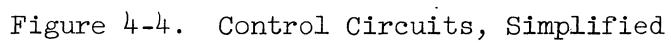

Figure 4-4. Control Circuits, Simplified
4.4.2. FILAMENT. (See figure 4-4.) Phase A is applied to the coil of filament relay K-103 directly. Phase B is applied to the coil through FILAMENT OFF buttons S-112 and S-113 when either FILAMENT ON button S-111 or S-310 is pressed. When filament relay K-103 closes, contacts K-103.3 and 4 bridge the FILAMENT ON buttons and hold the filament relay. The filaments of the driver stages immediately light and the blower hold relay K-305 is energized to apply power to blower contactor K-301. When the air stream is at nearly full pressure, air interlock switch S-304 closes to energize PA filament contactor K-303. Blower hold relay K-305 is a bellows type in which air entering a bellows thru a small orifice creates the time lag which keeps the blower operating for a short period after the PA filaments have been turned off to insure complete cooling of the tubes. Simultaneously with the application of driver filament power, time delay relay K-101 begins to heat by virtue of phase A being directly applied to pin 3 of K-101 and phase B being applied to pin 2 from K-103.3 thru R-173 and R-171. When K-101.5 and 7 close, filament-at-operating-temperature lamp I-101 lights and plate power can now be applied. R-172 is connected to form a voltage divider with R-173 to reduce the heat in K-101 after it has operated.
4.4.3. PLATE. (See figure 4-4.)
In the Automatic sequence start a complete start may be had by pressing the PA PLATE ON button. In succession the driver filaments and blowers will come on, the PA blower will come on, the PA filaments will come on and then the driver plate and PA plate will come on. (Refer to figure 4-4.) Pressing the PA PLATE ON button will energize PA plate hold relay K-206 by the circuit at phase B of S-112, S-311, S-312, S-313, K-306.3 and 4, K-304.3 and 4, to the relay coil. Phase A is connected directly. This relay is held by its contacts K-206.3 and 4, which are responsible for energizing of driver plate hold relay K-104 thru S-112, S-311, S-312, K-206.3 and 4, S-114, K-105.4 and 3, K-106, 4 and 3, S-108, S-109, S-201, S-301, S-302 to the coil of K-104. Contacts 3 and 4 of driver plate hold relay K-104 now energize driver filament contactor K-103 to light all filaments and start the heater element of time delay relay K-101. Contacts K-104.3 and 4 now become K-104 holding contacts. Now, because the two plate hold relays (K-104 and K-206) are already operated and held, the driver plate will come on at the end of the K-101 delay period and, contacts 5 and 6 of driver plate contactor K-102 will start a PA plate turn on cycle by energizing the motor of K-202.
4.4.4. OVERLOAD CIRCUITS. (See figure 4-4.)
Refer to the control circuit schematic figure 4-4. Contacts 3 and 4 of K-107 are connected in series with the coil of driver plate contacts K-102. Contacts 5 and 6 of K-107 and 3 and 4 of K-302 are connected in series with the coil of plate contactor K-204. Should an arc occur in the driver plate circuit, K-107 would open and momentarily turn off both high voltage supplies. Contacts 7 and 8 of K-107 break cathode return from 4-125A in driver bay to prevent plate current surge due to time constant of power supply if plate tuning capacitor arcs. Should an arc occur in the power amplifier plate circuit, K-302 would open and momentarily turn off only the power amplifier-modulator plate supply. See figure 2-4. The coil of K-107 is connected between a voltage source and the driver output network. Anytime an arc occurs at one of the arc gaps a ground is applied to the relay coil through the ionization stream of the arc and the relay is pulsed to momentarily turn off the plate power supplies. The coil of K-302 is connected similarly except that an arc gap can be connected at the tower network also. In event an arc is produced by either the output network or the transmission line, the relay would be energized and the power amplifier-modulator plate supply would be momentarily turned off.